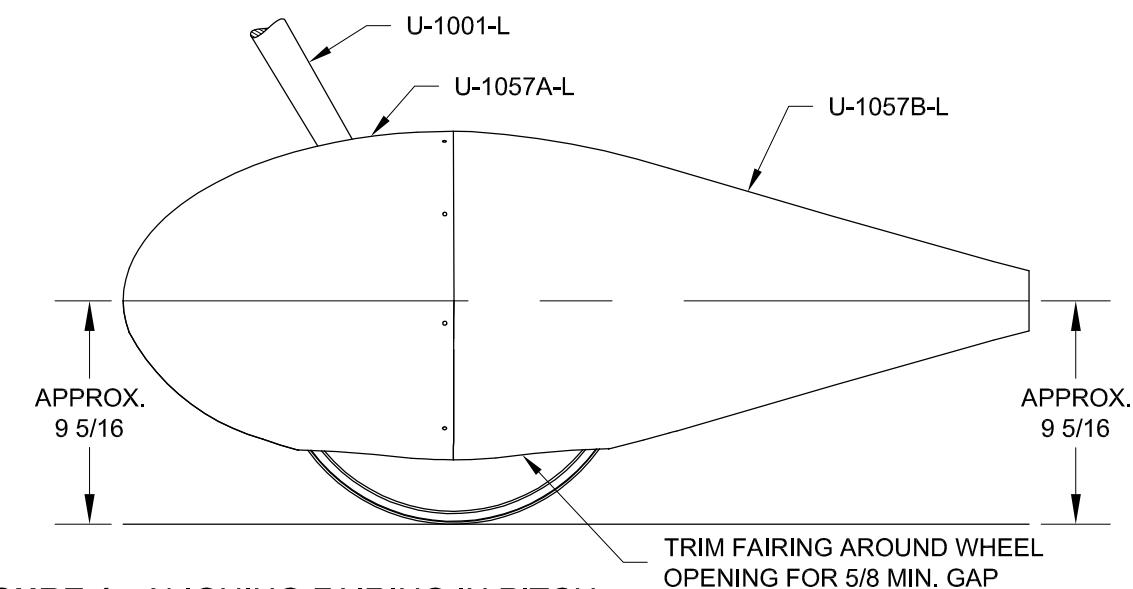

FIGURE 4:
Step 4: Slide the U-1057A-L Wheel Fairing Front onto the U-1057B-L Wheel Fairing Rear. Trim the wheel fairing front where it interferes with the U-1001-L Main Gear Leg and brake line (not shown) until the wheel fairing front can be clecoed to the wheel fairing rear as shown in Figure 4.
Check that the fairing is parallel to the floor and Shim as needed to make the front and rear dimensions the same. Mark wheel fairing front and rear around the wheel opening to yield clearance called for in Figure 4.